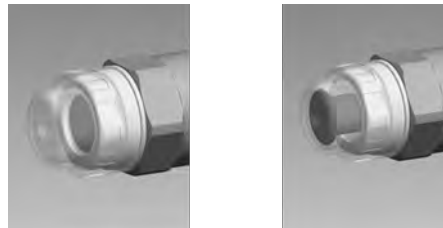

Fig. 9: Visual diaphragm rupture sensor, triggered and untriggered
With **visual** diaphragm rupture sensors, in the event of a diaphragm rupture, the lowered red cylinder (6) springs forward beneath the transparent cover (7) so that it then becomes clearly visible - see Fig. 9.